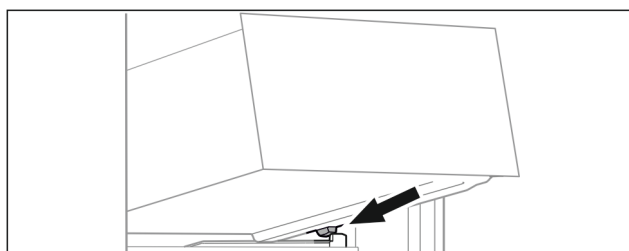

Fig. 22
- Place drawer on the moulded ribs behind the stoppers with the drawer tilted up at the front Fig. 22 (1).